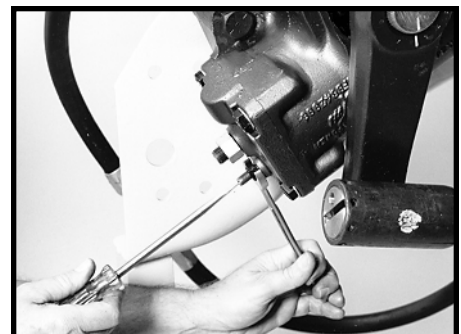

Figure 37
- 4.6 To adjust the other poppet, repeat these instructions for full lock in the other direction. SEE FIGURE 37.